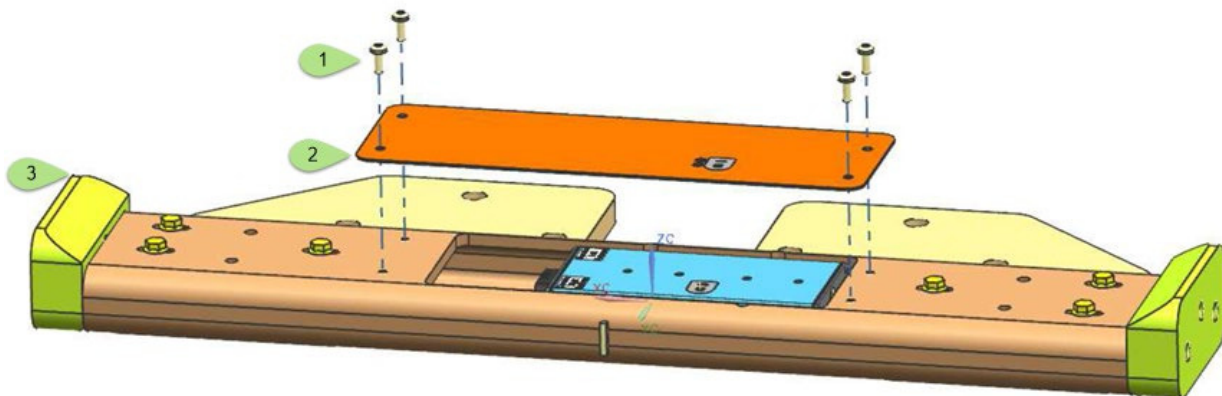

Figure 2 - LIM Cover Plate
- Mount the cover plate and align the LED on the LIM to complete assembly [Figure 2]
### 3.3.1.1 Part Numbers & Torque Settings [Figure 2]